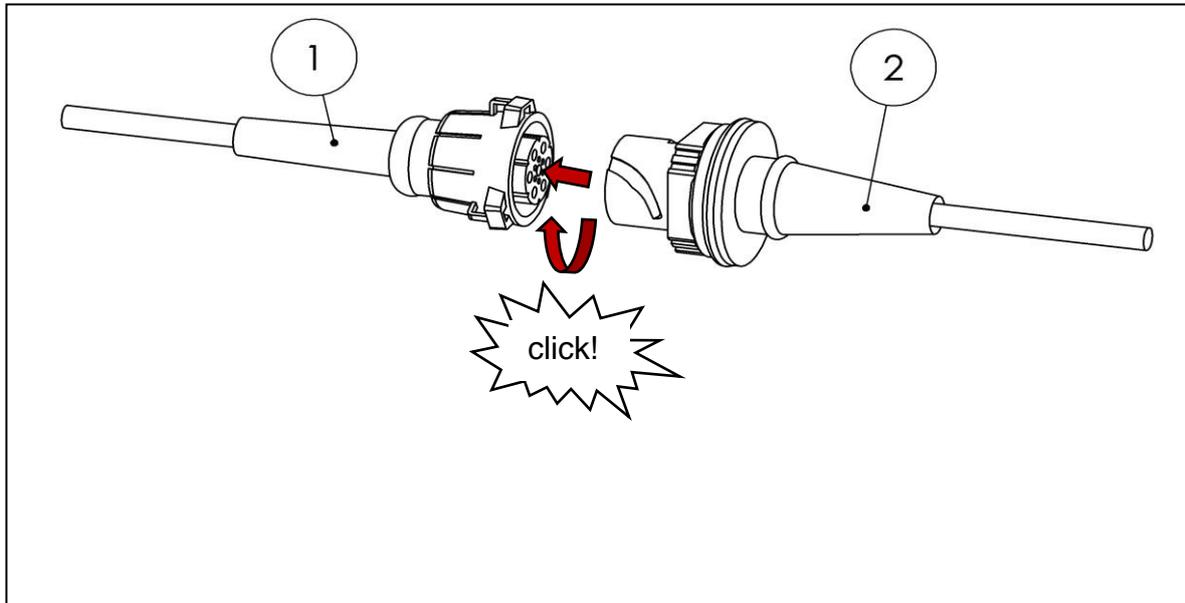

Fig. 21
- Route the cabin switch cable from the **accessories kit (Item No. 11)** to the driver's cabin (see Fig. 21).